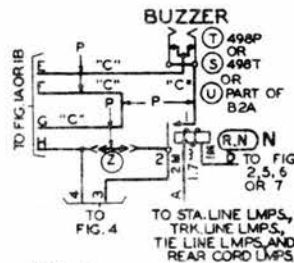

FIG. 2
- 1.2 The battery key shown in Fig. 2 with fuses in Fig. 8 are provided to control the battery supply to the station cord telephone and dial, central office trunk and tie trunk circuit in a single position switchboard where central office and building battery is inaccessible for replacement of fuses.